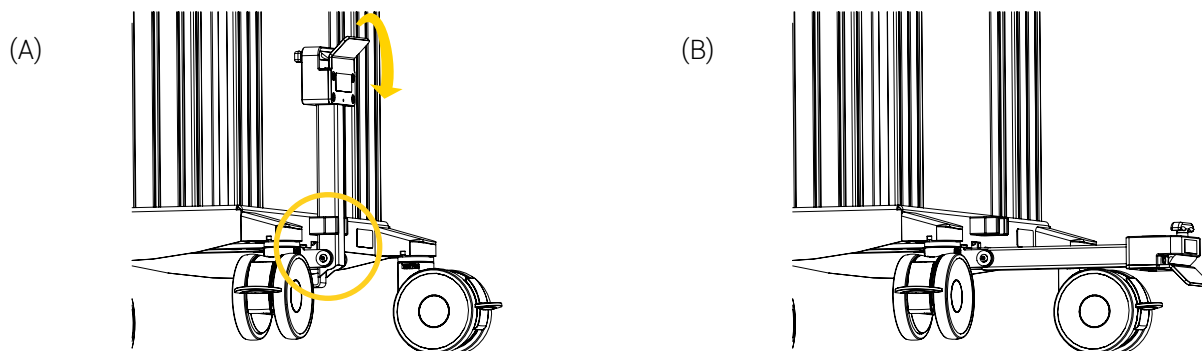

Figure 4 : Pivoting the fold-up hitch
2. If required, disengage the braking system on all four (4) dual wheel swivel casters of the THS Neonatal Cart.
3. If required, disengage the four (4) locking brakes of the incubator, then engage the directional castor to facilitate straight movements.
4. Lower the fold-up hitch using your foot to free it from its clip (Figure 4 A), then pivot the arm downwards until it has reached its final position (Figure 4 B).